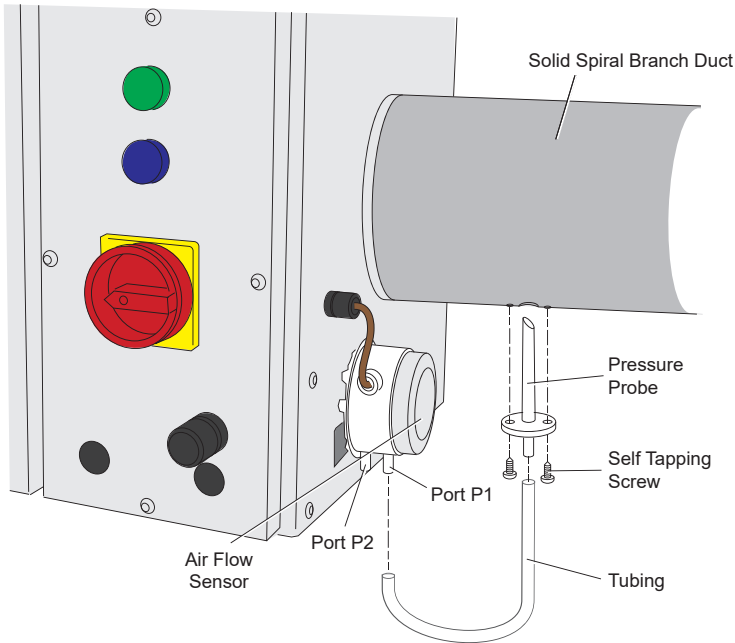

Figure 27 - Installing the Air Flow Sensor's Pressure Probe
Install the Air Flow Sensor's Pressure Probe into the Branch Duct which connects the UV-O 1000 to the Main Extract Duct (See Figure 27 - Installing the Air Flow Sensor's Pressure Probe on page 26) as follows:
2. Insert the Airflow Sensor's Pressure Probe into the 7mm hole drilled in the Branch Duct and secure with screws through the flange into the two 2mm holes drilled in the Branch Duct (See Figure 27 - Installing the Air Flow Sensor's Pressure Probe on page 26).
3. Connect the Pressure Probe via the PVC tube to Port P1 on the Air Flow Sensor, leaving Port P2 unused and open to the atmosphere (see Figure 27 above).